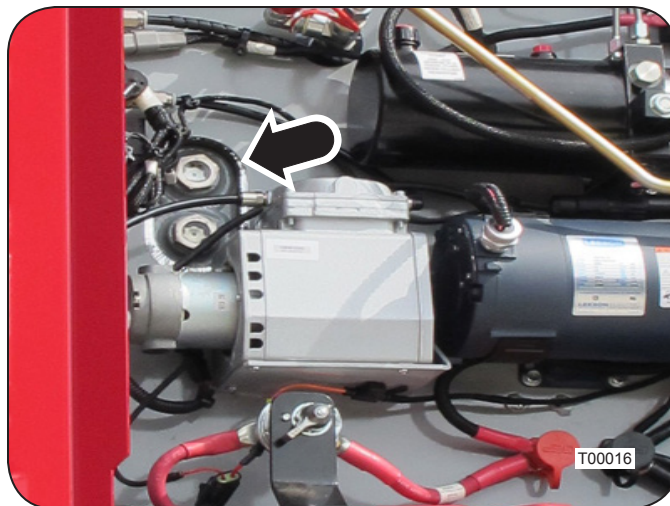

Figure 9: Oil Level Sight Gauge
4) Add oil until level in the tank is visible in the site glass. See Figure 9. Do not over fill the tank.